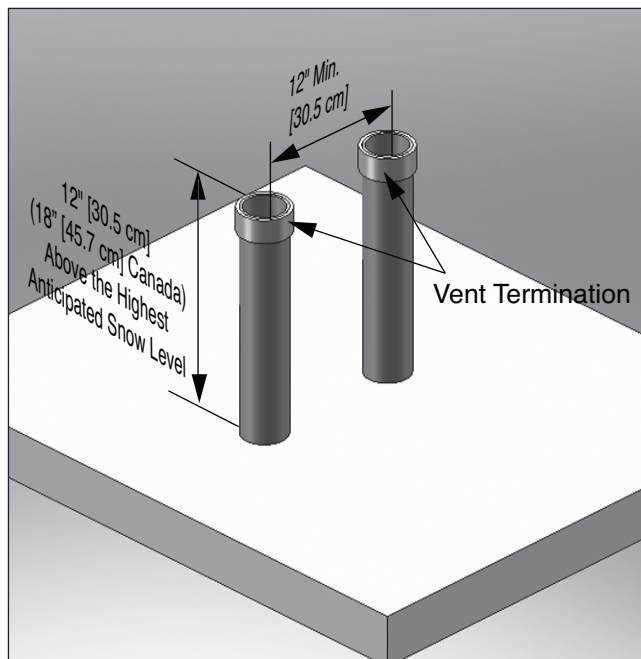

Fig. 16 - Category IV- Vertical Termination of Multiple Prestige Boilers
2. Each vent termination must be a minimum 12" [30.5 cm] from the adjacent termination for installations in the U.S. as shown in *Fig. 16 below*. For installations in Canada, provide clearances as required by CAN/CSA B149.1.